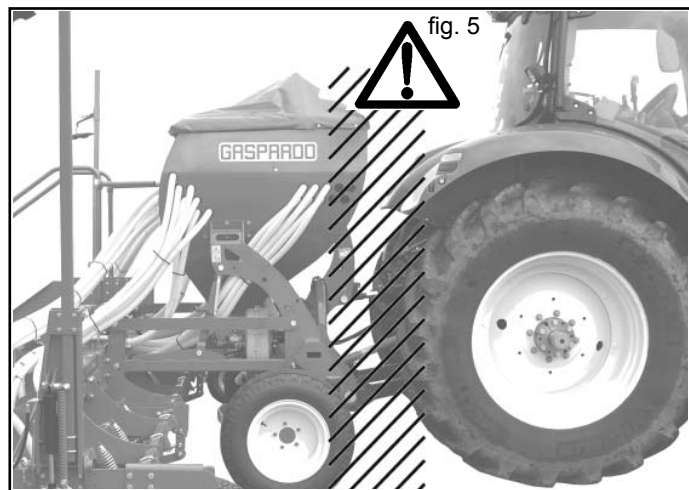

fig. 5
- 5) It is absolutely forbidden to stand between the tractor and linkage for manoeuvring the lifting controls from the outside (Fig. 5).
- 6) It is absolutely forbidden to stand in the space between the tractor and the equipment (Fig. 5) with the engine running. It is possible to work between the tractor and the equipment only after the parking brake has been applied and a suitably sized blocking wedge or stone has been placed under the wheels.